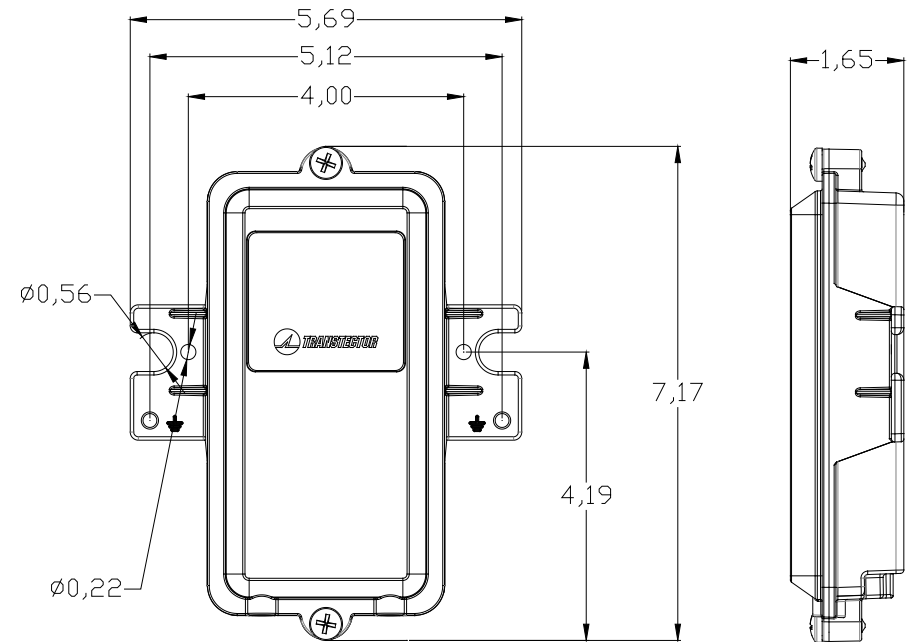

Figure 1. Mechanical outline drawing (inches)
1. The ALPU-CS-SERIES is intended to be installed indoors or outdoors, on wall or pole mount applications. The unit features mounting feet on the sides that mount on 4" center-to-center holes with #10 sized hardware. The mount foot also adapts to 4" diameter pole mounting kits with a 4.5" center-to-center holes and larger hardware. Refer to figure 1 for mechanical requirements and connector locations. The optimum ground connection on the metal enclosure unit at the mounting flange on either side is shown in Figure 1. Use minimum 8AWG wire for a ground reference attachment. Communication cables with the RJ45 connectors already installed can feed directly into the enclosure. Be sure to install the cables with the unprotected cable installed into the left "in" jack and the protected equipment cable in the right "out" jack. The enclosure features a built in cable retention that grips the cable with a screw down bracket. A pole mount adapter kit (pn 1000-1164) is available to meet installations on a wide range of pole diameters from 2" metal fence poles to 10" diameter utility poles.
2. Mount the unit to an outside surface using the two mounting holes shown in figure 1.